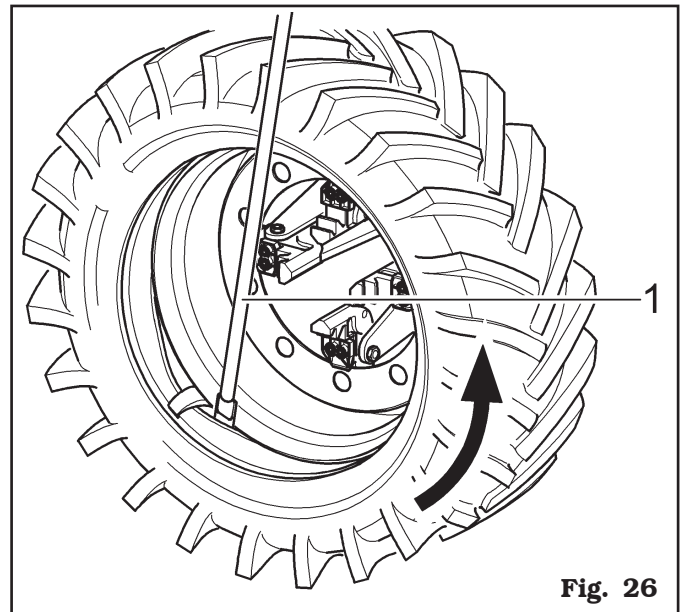

Fig. 26
- Insert the lever (**Fig. 26 ref. 1**) between rim (**Fig. 26 ref. 2**) and bead (**Fig. 26 ref. 3**) on the tool right.
- Keeping the lever pressed, lower the wheel until the edge of the rim is approximately 5 mm distant from the hook tool then turn the mandrel counterclockwise keeping the lever (**Fig. 26 ref. 1**) pressed until the tyre has been completely dislodged from the rim.